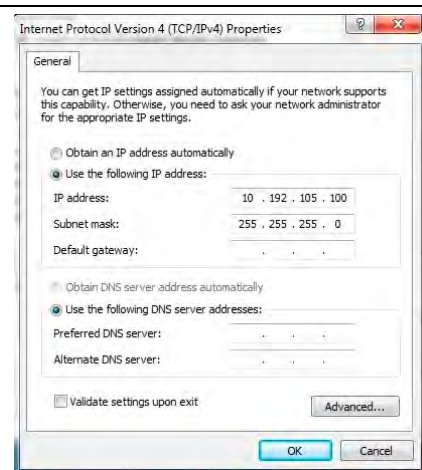

Figure 3-26 TCP/IP Properties
- e. Enter IP address 10.192.105.100 and subnet mask 255.255.255.0, Figure 3-26